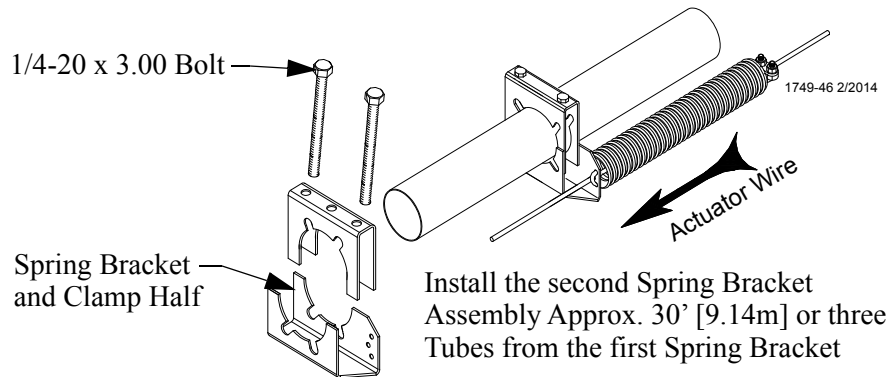
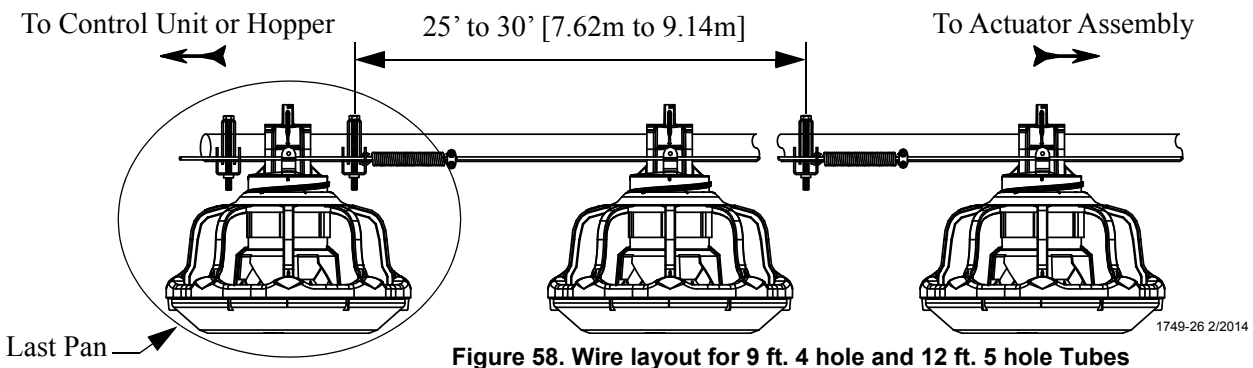

Figure 56. Terminal Spring Bracket
Figure 58. Wire layout for 9 ft. 4 hole and 12 ft. 5 hole Tubes
1. Install the terminal Spring and Bracket (using (2) 1/4-20 x 3 inch hex bolts) at the control unit, see **figure 56 and 59**. If necessary the last pan may need to be setup to push the vari-brood opening, See **Figure 58**.
3. Brackets will be installed using (2) 1/4-20 x 3 inch hex bolts.